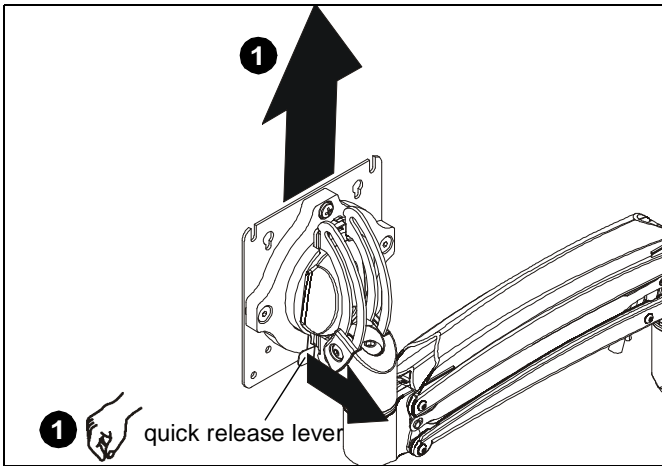

Figure 4
1. Remove quick release faceplate from KRA227 by pulling quick release lever and sliding faceplate off. (See Figure 4)